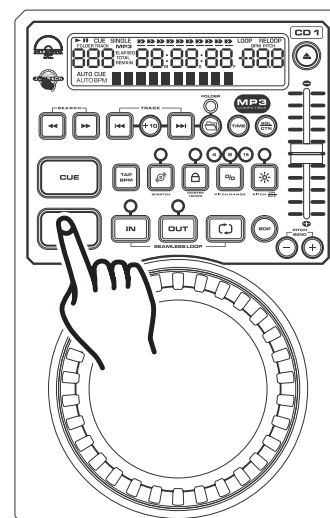
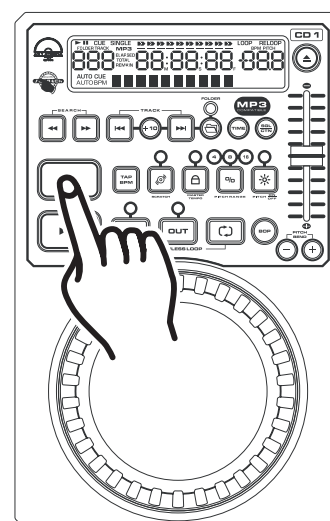
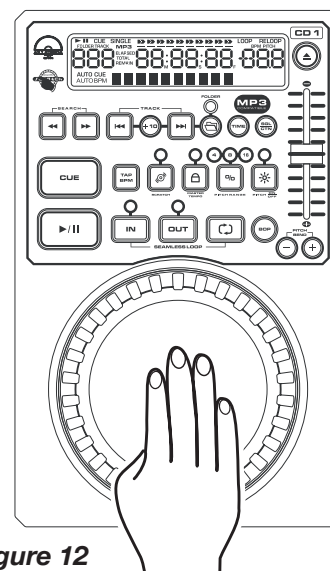

Figure 10
Figure 11
Figure 12
3. STARTING PLAYBACK - *Figure 10*
5. STOPPING PLAYBACK - *Figures 10 & 11*
- 1) Press the *PLAY/PAUSE BUTTON (15)* during playback. This will pause playback at the exact same point the *PLAY/PAUSE BUTTON (15)* was pressed.
- 2) Press the *CUE BUTTON (17)* during playback. This will pause playback and return the track to the last set cue point.
6. PAUSING - *Figure 10*
This feature allows you to scroll through a track frame by frame, allowing you to find and set a starting cue or loop point. To use the scroll function you must first be in Pause Mode or Cue Mode. Once you are in Pause or Cue mode, turn the *JOG WHEEL (12)* to scroll through the track (*Figure 12*). Turning the wheel in a clockwise direction will advance the frame search and turning the wheel in a counter-clockwise direction rewinds the frame search. When you use the *JOG WHEEL (12)* the monitor (headphone level) function allows you to here what you are scrolling through. Once you reach your desired starting point you can set a cue (starting) point by pressing the *PLAY/PAUSE BUTTON (15)* as in *Figure 10*. Pressing the *CUE BUTTON (17)* as in *Figure 11* will now return you to the point you just set.